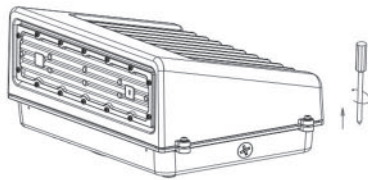

Fig. 1-1A
- 1.Take out the fixture, and loosen the screws on the cover and take apart the fixture by the screw driver.Pull off the quick connect terminal vigorously.(Fig.1-1A&B)